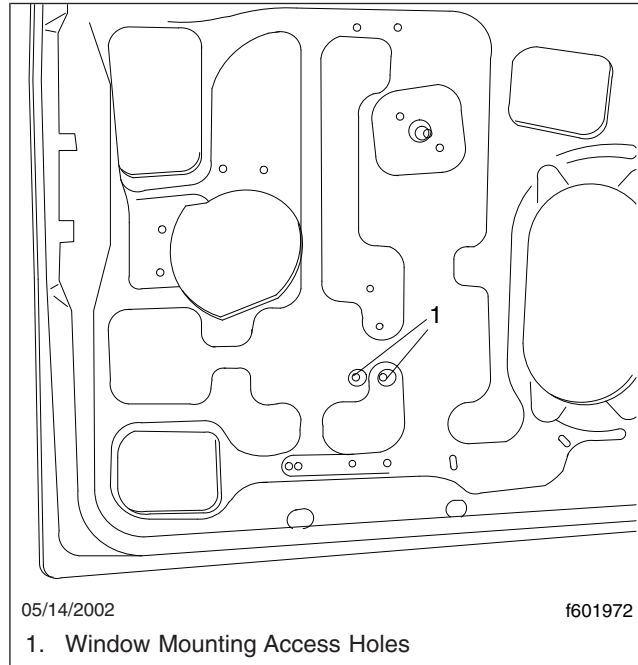

Fig. 8, Window Mounting
- 15.1 If the regulator is functional, crank or power the window down until the window mounting bolts are aligned with the two access holes in the inner door skin. See Fig. 8.